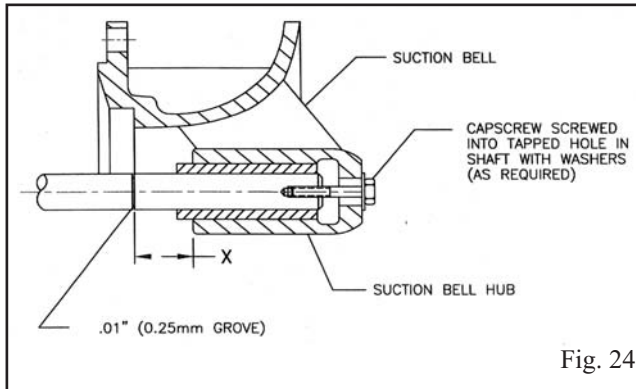

Fig. 24
- A. Insert the pumpshaft into the suction bell bearing until it bottoms out, then pull the shaft out until the distance between the groove on the shaft and the top of the suction bell hub (not the top of the bearing) is correct for the particular pump. (See Fig. 24.)